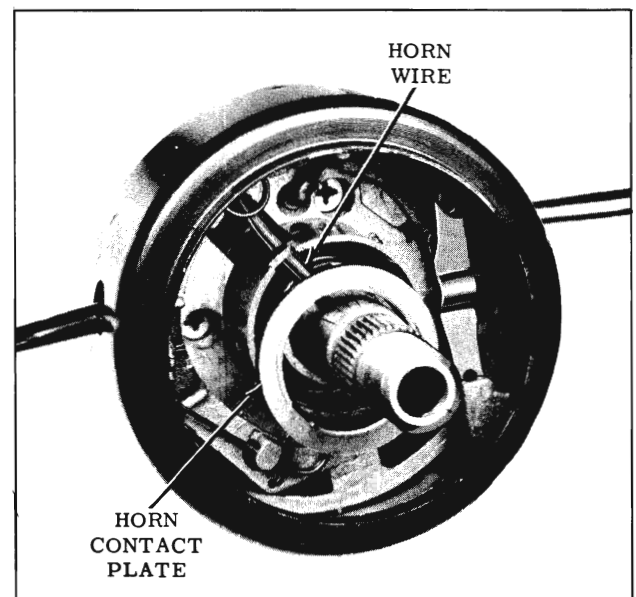

Fig. 4-286 Horn Contact Wire Installation
4. Install horn contact plate guiding the horn wire through the actuator housing and down through the mast jacket as shown in Fig. 4-286.